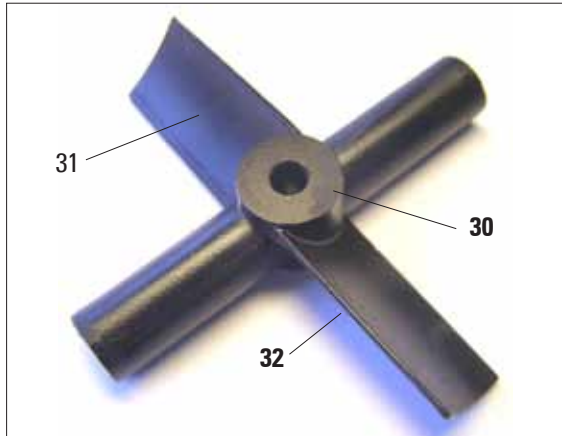

Fig. 7
- Unpack the magnetic stirrer (30, Fig. 7) and insert it into the retort.
(Fig. 7)